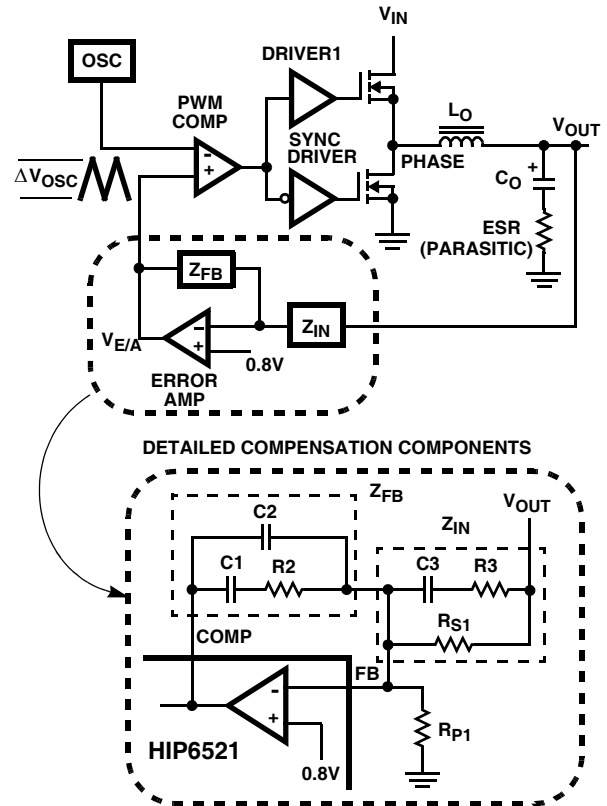
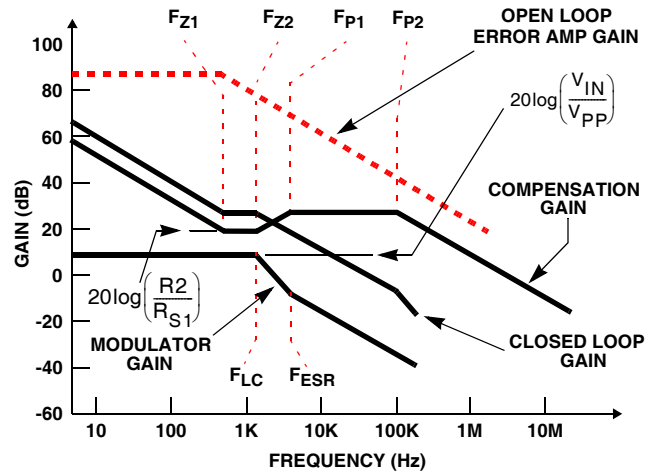

FIGURE 6. VOLTAGE-MODE BUCK CONVERTER COMPENSATION DESIGN
FIGURE 7. ASYMPTOTIC BODE PLOT OF CONVERTER GAIN
Figure 6 highlights the voltage-mode control loop for a synchronous-rectified buck converter. The output voltage (V_{OUT}) is regulated to the Reference voltage level, 0.8V. The error amplifier (Error Amp) output ($V_{E/A}$) is compared with the oscillator (OSC) triangular wave to provide a pulse-width modulated (PWM) wave with an amplitude of V_{IN} at the PHASE node. The PWM wave is smoothed by the output filter (L_O and C_O).
The compensation network consists of the error amplifier (internal to the HIP6521) and the impedance networks Z_{IN} and Z_{FB} . The goal of the compensation network is to provide a closed loop transfer function with high 0dB crossing frequency (f_{0dB}) and adequate phase margin. Phase margin is the difference between the closed loop phase at f_{0dB} and 180°. The equations below relate the compensation network's poles, zeros and gain to the components (R_1 , R_2 , R_3 , C_1 , C_2 , and C_3) in Figure 6. Use these guidelines for locating the poles and zeros of the compensation network:
Figure 7 shows an asymptotic plot of the DC/DC converter's gain vs. frequency. The actual Modulator Gain has a high gain peak dependent on the quality factor (Q) of the output filter, which is not shown in Figure 6. Using the above guidelines should yield a Compensation Gain similar to the curve plotted. The open loop error amplifier gain bounds the compensation gain. Check the compensation gain at F_{P2} with the capabilities of the error amplifier. The Closed Loop Gain is constructed on the log-log graph of Figure 10 by adding the Modulator Gain (in dB) to the Compensation Gain (in dB). This is equivalent to multiplying the modulator transfer function to the compensation transfer function and plotting the gain.